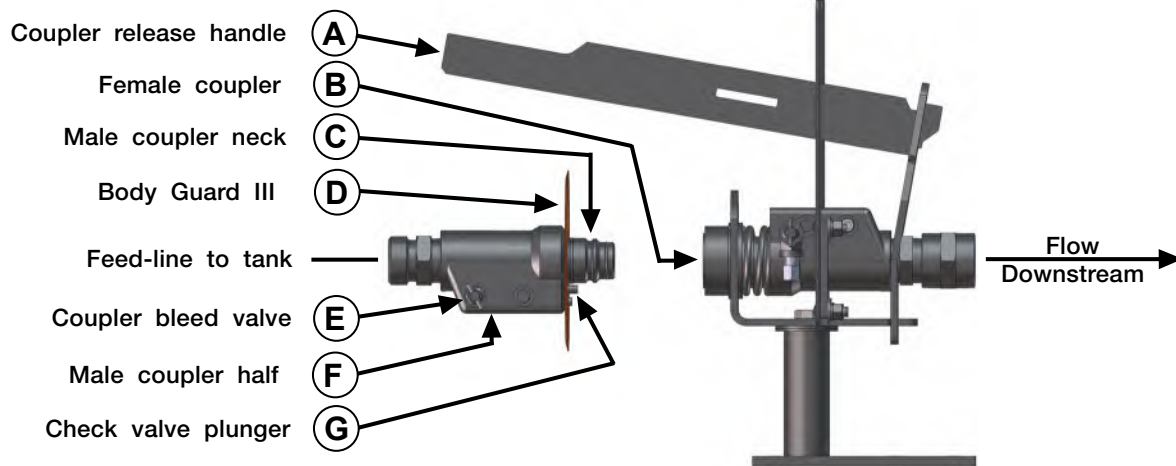

FIG. 4-2
2. Relieve pressure between male coupler (F) and first shutoff valve towards nurse tank by carefully opening coupler bleed valve (E). The Flo-Max coupler is designed to re-couple safely with pressure on the female coupler half (B). (FIG. 4-2)
NOTE: Leave coupler bleed valve (E) open for now. (FIG. 4-2)
3. While holding and pointing the hose and male coupler (F) downwind and away from your person, depress check valve plunger (G) with gloved finger to ensure proper operation (FIG. 4-2 & FIG. 4-3). Wipe foreign debris from coupler neck (C) with clean cloth.
4. Make certain BodyGuard III (D) is installed fully with slot oriented around check valve plunger (G) to protect against ammonia spray-back during coupling (FIG. 4-2 & FIG. 4-4).
5. Insert male coupler neck (C) into female coupler half (B) as far as possible (FIG. 4-2 & FIG. 4-4).
NOTE: Then, while applying insertion pressure, pull downward on coupler release handle (A) to complete the coupling process. Release handle (A) after engagement of coupler neck (C) (FIG. 4-2 & FIG. 4-5).
1. After closing all valves, bleed pressure from male coupler half (F) by opening coupler bleed valve (E). Leave bleed valve (E) open. (FIG. 4-2)
2. Then, pull down on coupler release handle (A) and remove male coupler half (F).